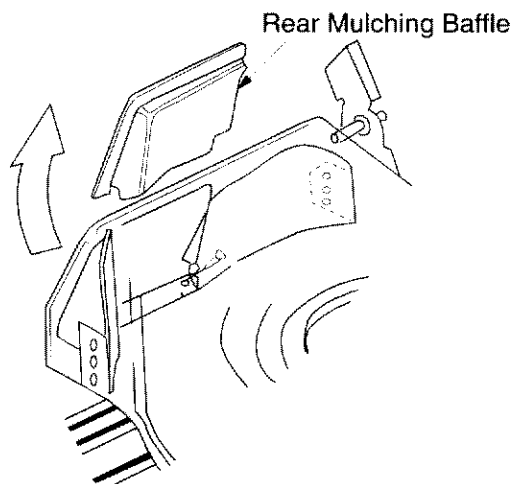

FIGURE 7
- Lift the rear discharge door and remove the rear mulching baffle from the mower. See Figure 7.
- Place the hooks of the grasscatcher into the slots in the handle bracket assemblies on both sides. See Figure 7. Release the rear discharge door.